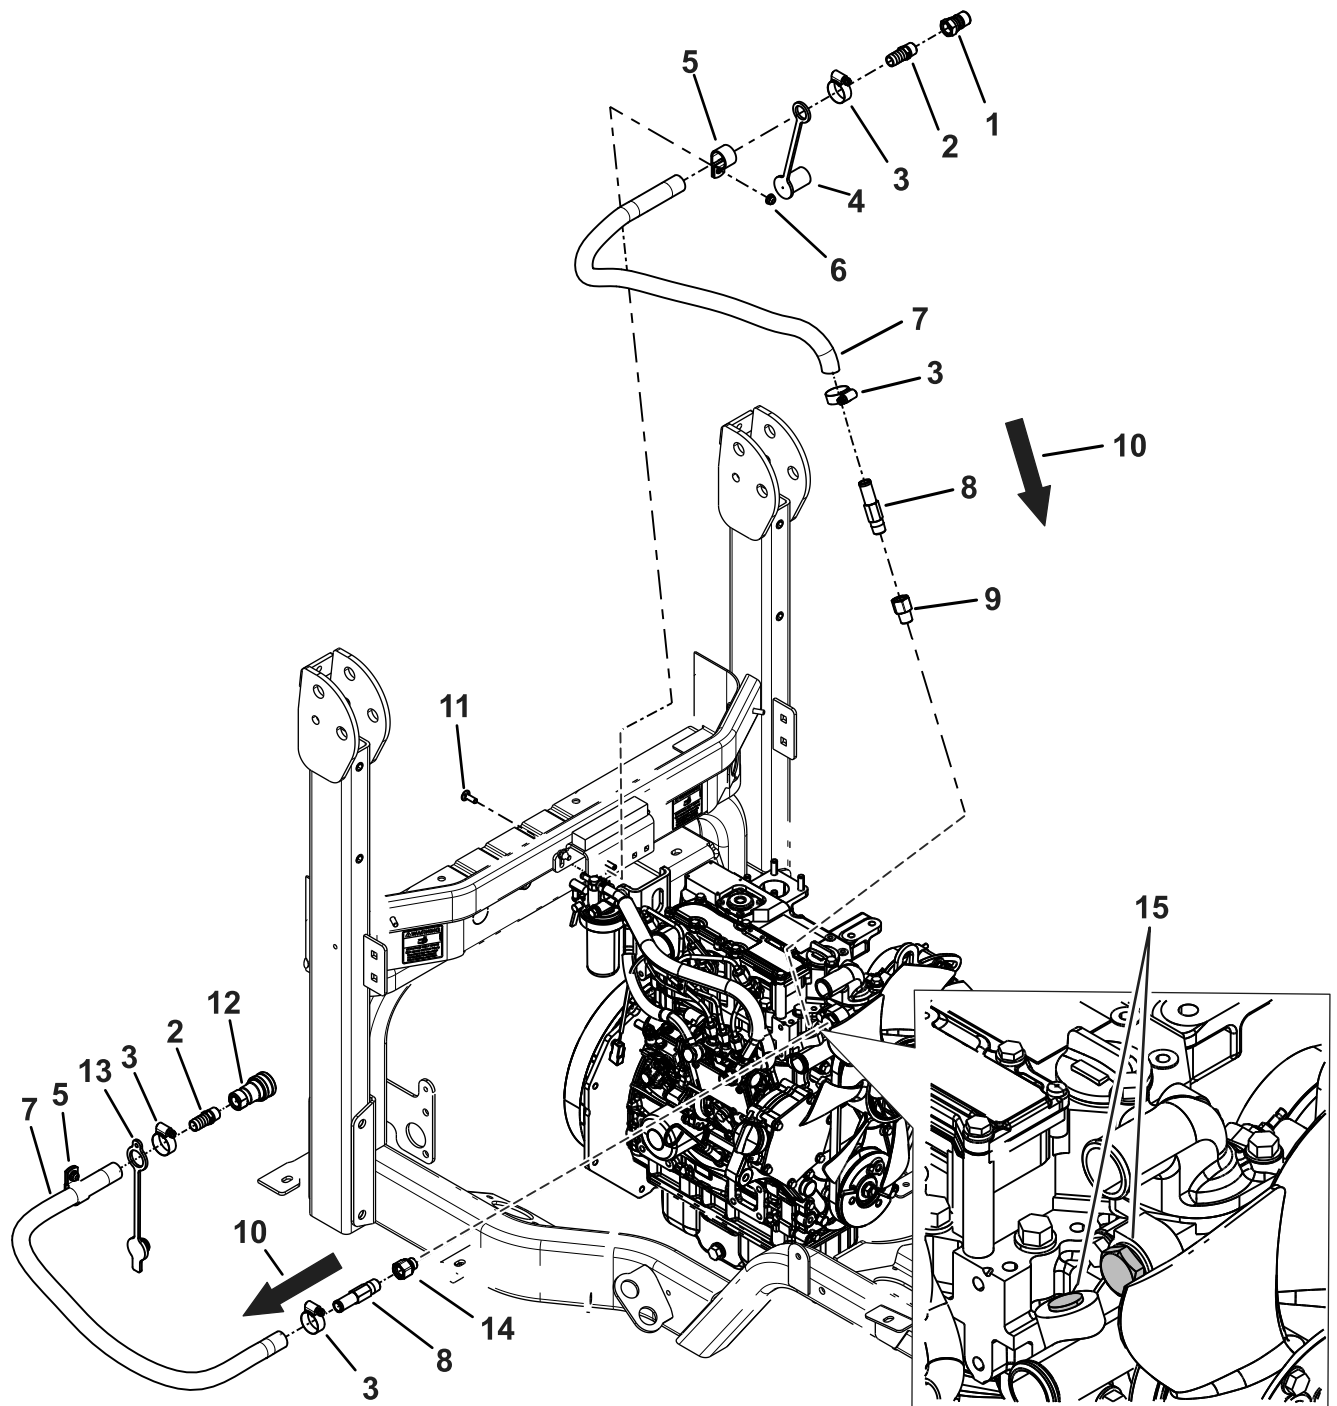
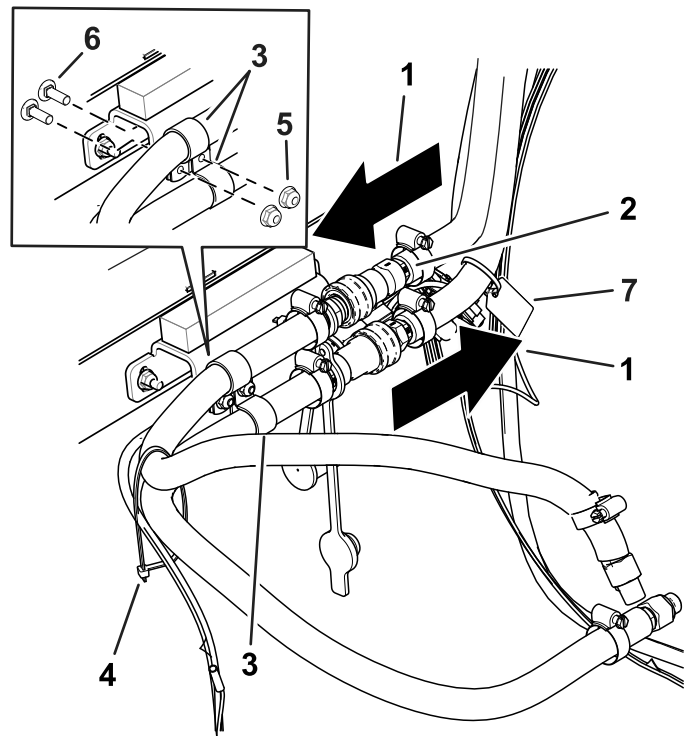

Figure 20
Figure 22
3. Slip the dust plug and dust cap over the barbed end of the assemblies (Figure 20).
4. Thread the straight fittings (3/8 NPT x 5/8 barb) into the male and female couplers (Figure 20).
6. Insert the barbed end of the assemblies into the hoses and secure them with the hose clamps (Figure 20).
7. Install the straight adaptor (3/8 inch) onto the engine fitting for the hose with the male coupler (Figure 20).
8. Install the straight adaptor (M16) onto the engine fitting for the hose with the female coupler (Figure 20).
| 11. Locate and remove the engine plugs shown in Figure 20 . | 2. Couplers installed | 6. Carriage bolt (1/4 x 3/4 inch) |
| 16. Insert the hoses over the barb ends of the engine fittings and secure them with the hose clamps (Figure 20). | | |
| 17. Install the R-clamps around the hoses (Figure 20). | | |
| 18. Secure the hoses to the back of the cab with 2 carriage bolts and 2 nuts (Figure 20 and Figure 22). | | |